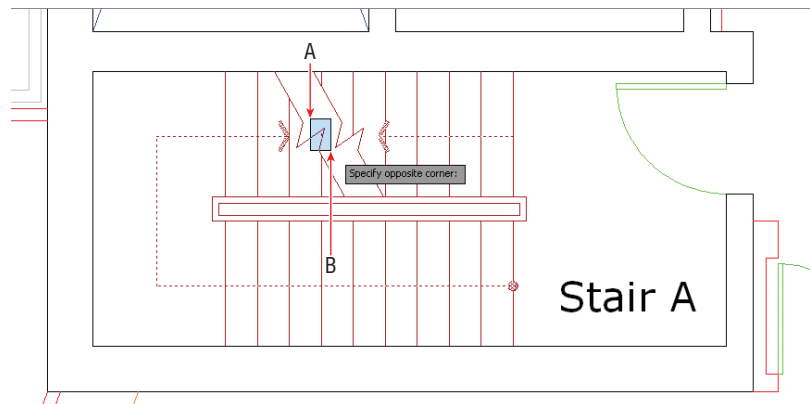

FIGURE 4.4 Removing a short line from the selection set with an implied window
7. Click point A and then B, as shown in Figure 4.4. This implied window selects the short line segment trapped in the break line and removes it from the selection set.